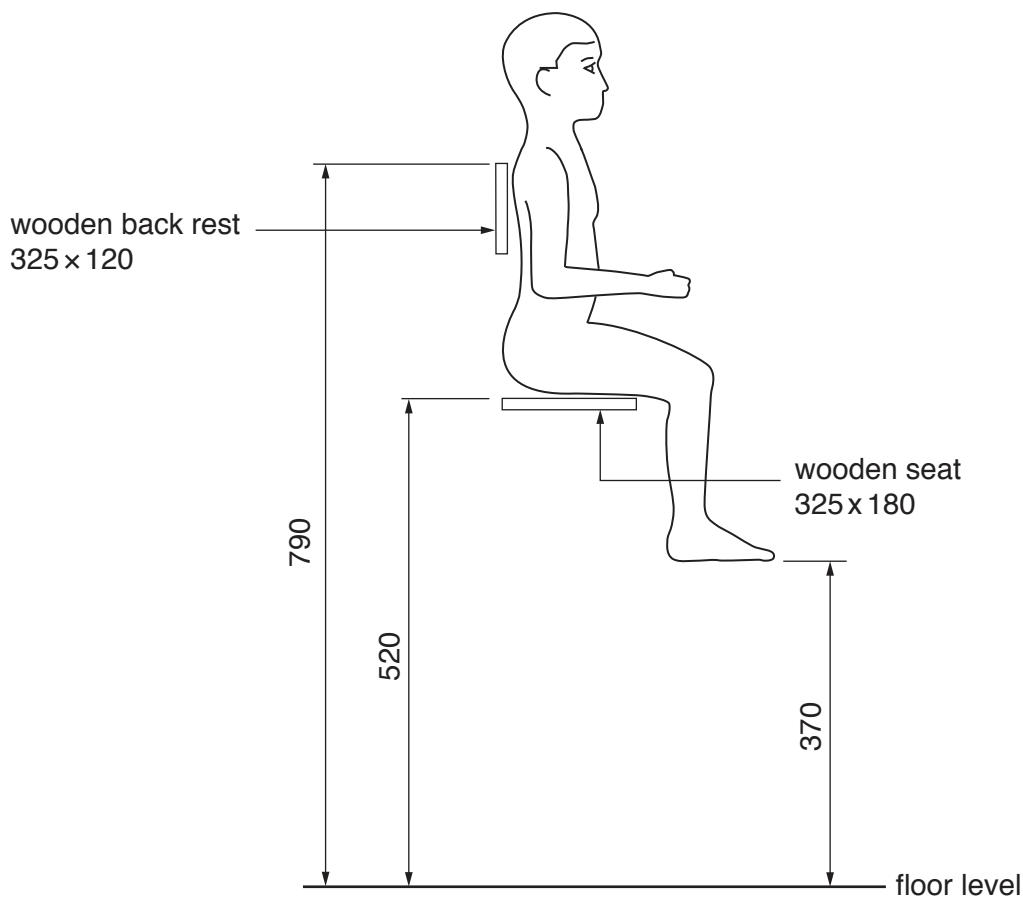

Fig. 7
- 7 Fig. 7 shows an incomplete design for a high chair for children aged between six months and three years.
- (a) Using notes and sketches, **develop** a design which supports the seat and back rest of the high chair at the heights shown in Fig. 7. The design must include a footrest. [20]